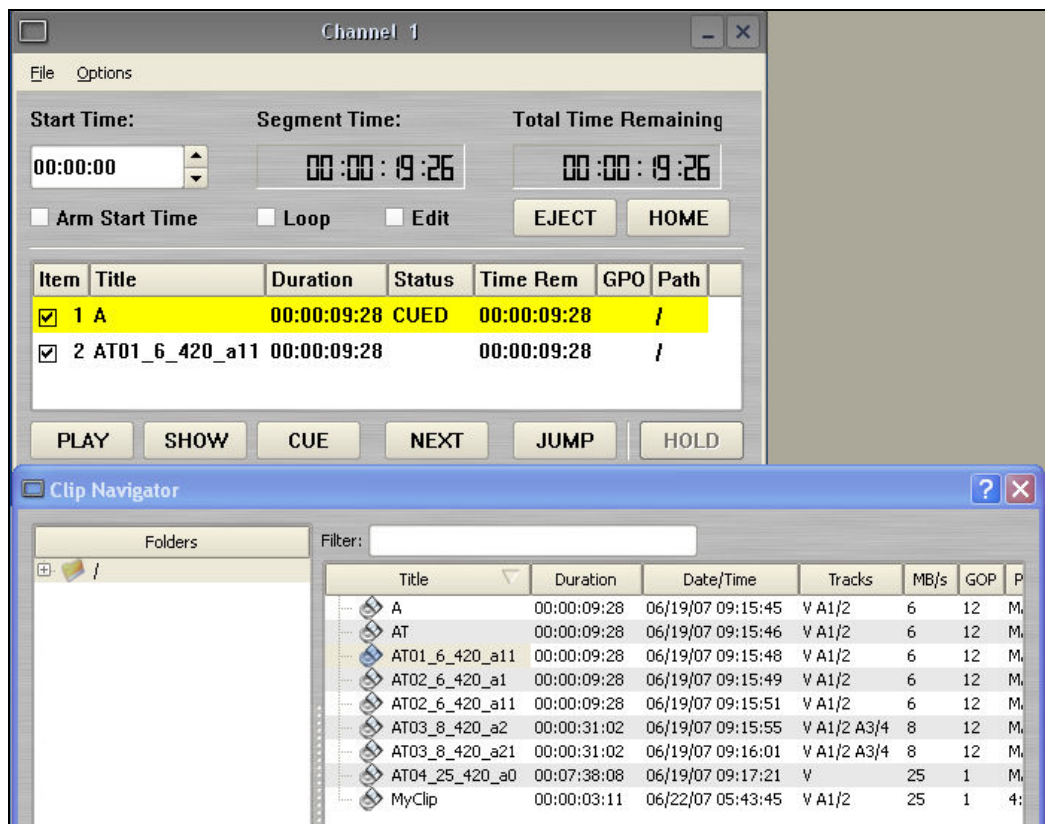

Figure 26 - Channel 1 Playlist with Clip Navigator
- C. Click **SHOW->CLIP LIST** from the main menu to open the Clip Navigator. Both windows are now visible per Figure 26.